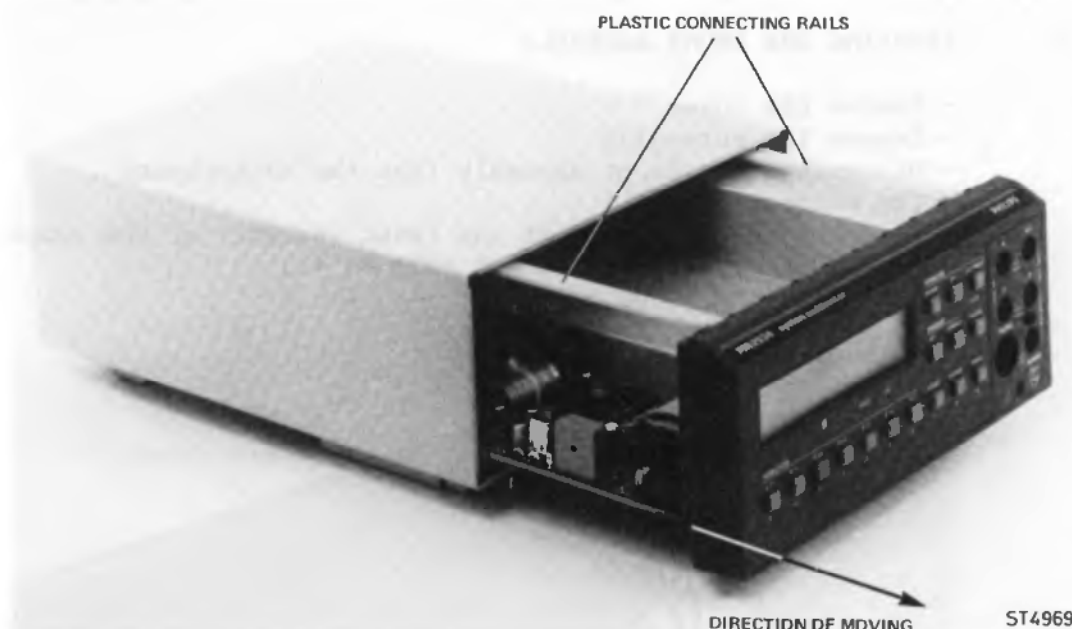

Figure 4.1
4.1 REMOVING THE COVER (Figure 4.1)